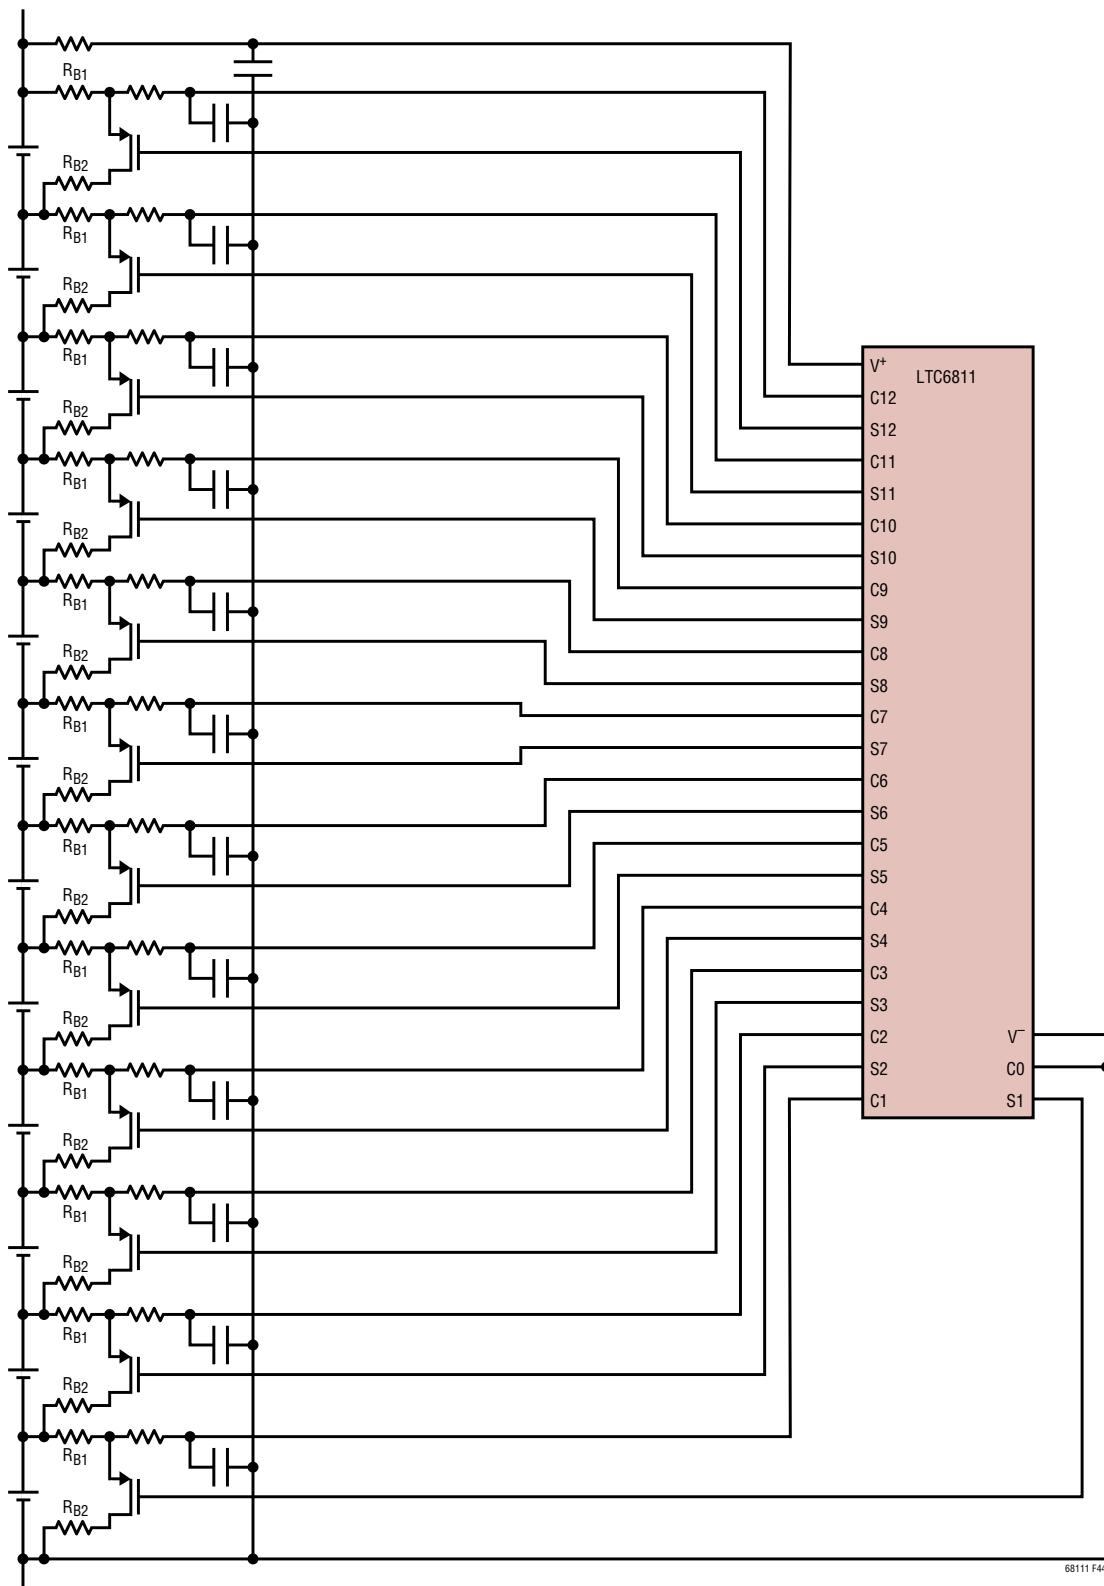

Figure 44. Balancing Self Test Circuit
The functionality of the discharge circuits can be verified by conducting cell measurements. As shown in Figure 44, a resistor between the battery cell and the source of the discharge MOSFET will cause a decrease in cell voltage measurements. The amount of this measurement decrease depends on the resistor value and the MOSFET on resistance. The following algorithm can be used in conjunction with Figure 44 to verify each discharge circuit:
21. Compare new readings with old readings. Each cell voltage reading should have decreased by a fixed percentage set by  $R_{B1}$  and  $R_{B2}$  (Figure 44). The exact amount of decrease depends on the resistor values and MOSFET characteristics.